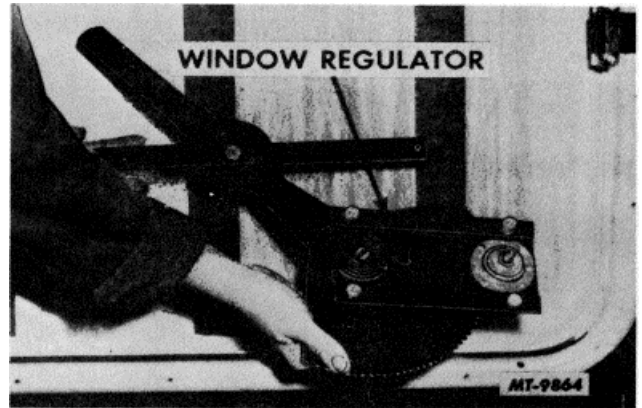

Fig. 13
3. Remove window regulator through cab door lower opening, Fig. 13.